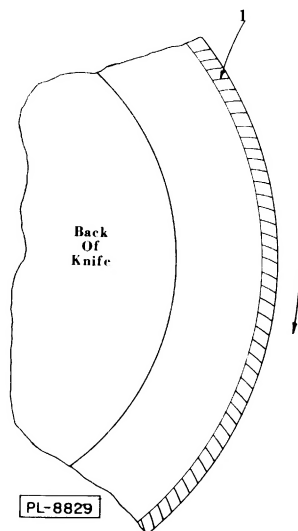

Fig. 6
7.10 Check to make sure that the characteristic grind marks (1, Fig. 6) are plainly visible on the ground surface, if not the grinding wheel is not cutting. (Many operators try to sharpen a knife with a grease-loaded stone which will not cut).